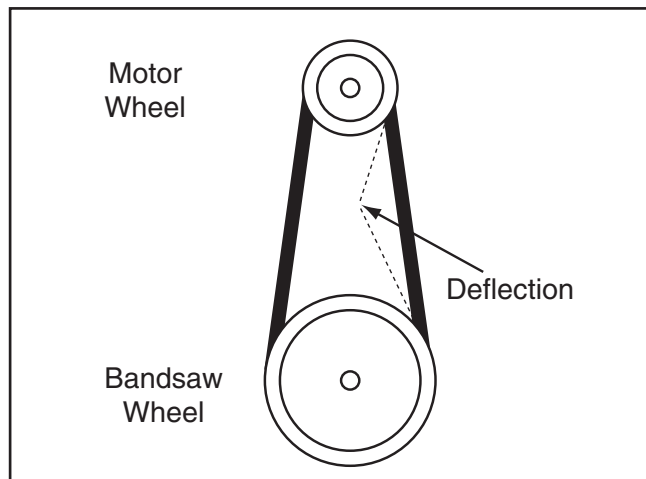

Figure 75. V-belt deflection.
4. Push the center of the V-belts. Note the amount of deflection (see **Figure 75**). If deflection is more than $\frac{3}{4}$ ", tension the V-belt.